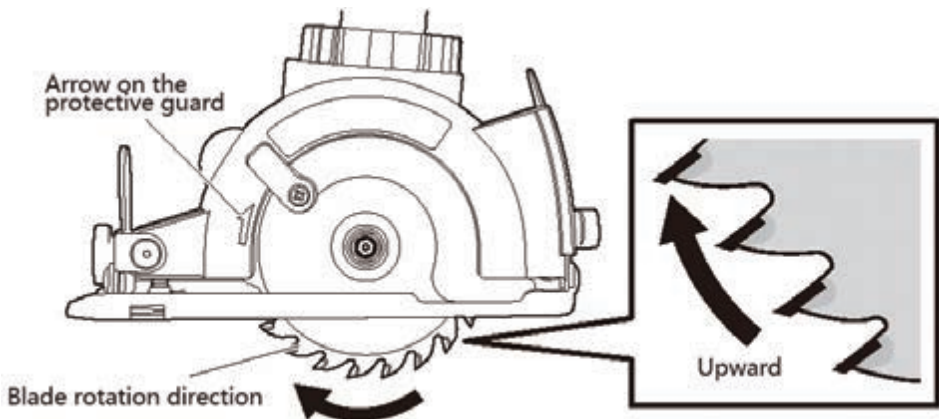

Figure 5
**Note:** Pay attention to the rotary direction of the blade. The tip of the blade should be upward and consistent with the arrow direction on the protective guard. (Figure5)